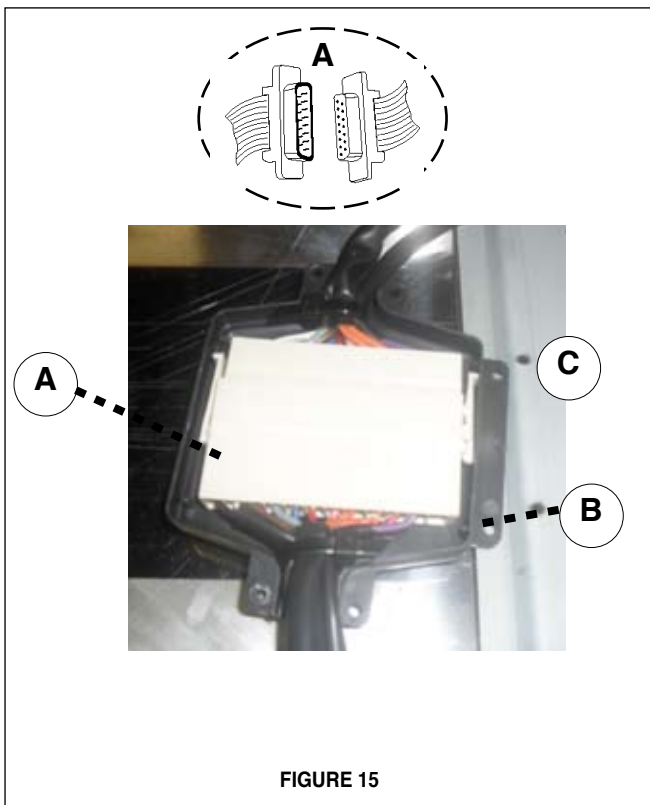

FIGURE 15
5. Connect the CONTROL CABLES together as indicated in A in FIGURE 15. Insert the connected CONTROL CABLES (A in FIGURE 15) into the black plastic CONNECTOR BOX (B in FIGURE 15) by connecting the two black plastic pieces using the four screws provided. Using the two longer screws provided, attach the assembled CONNECTOR BOX to the METAL FLANGE (C in FIGURE 15).